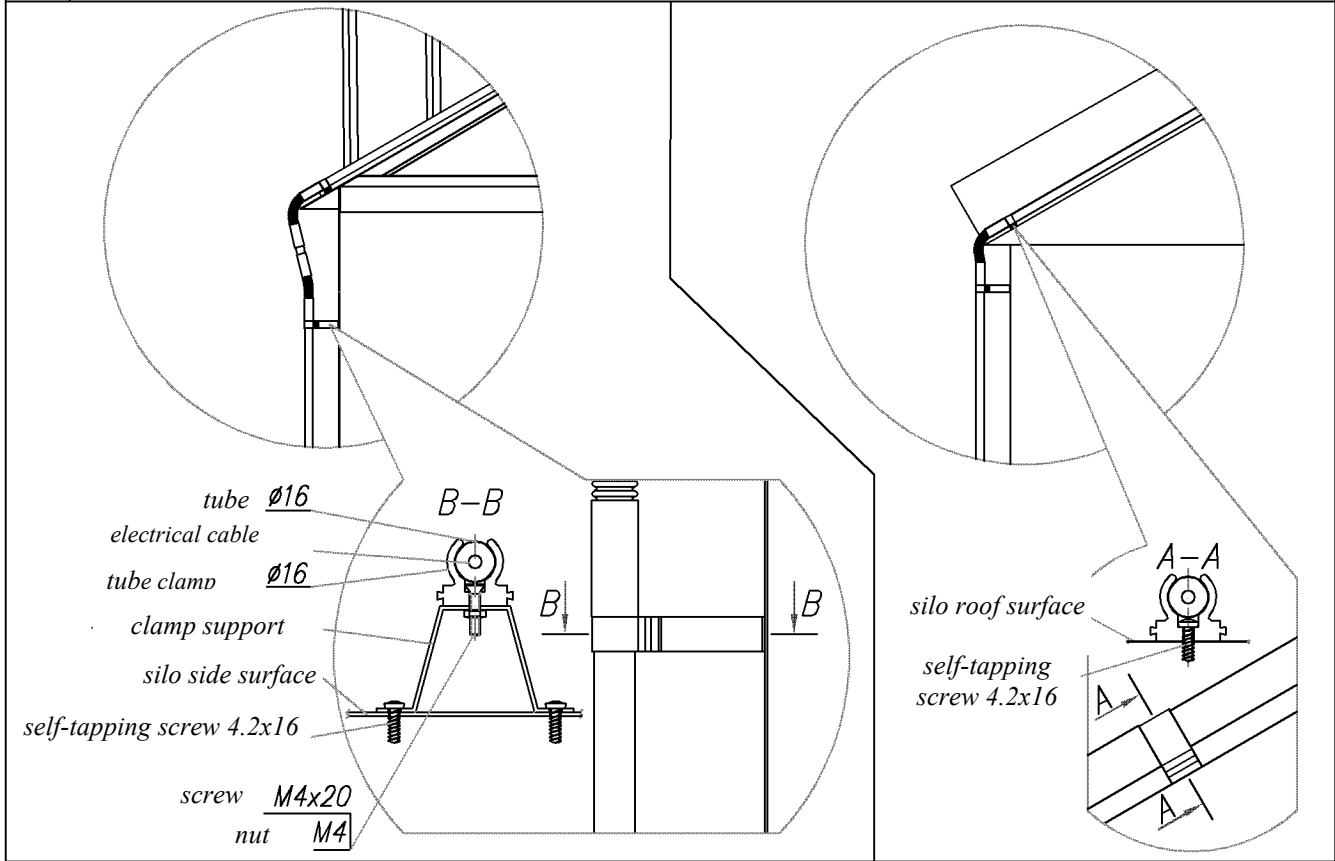
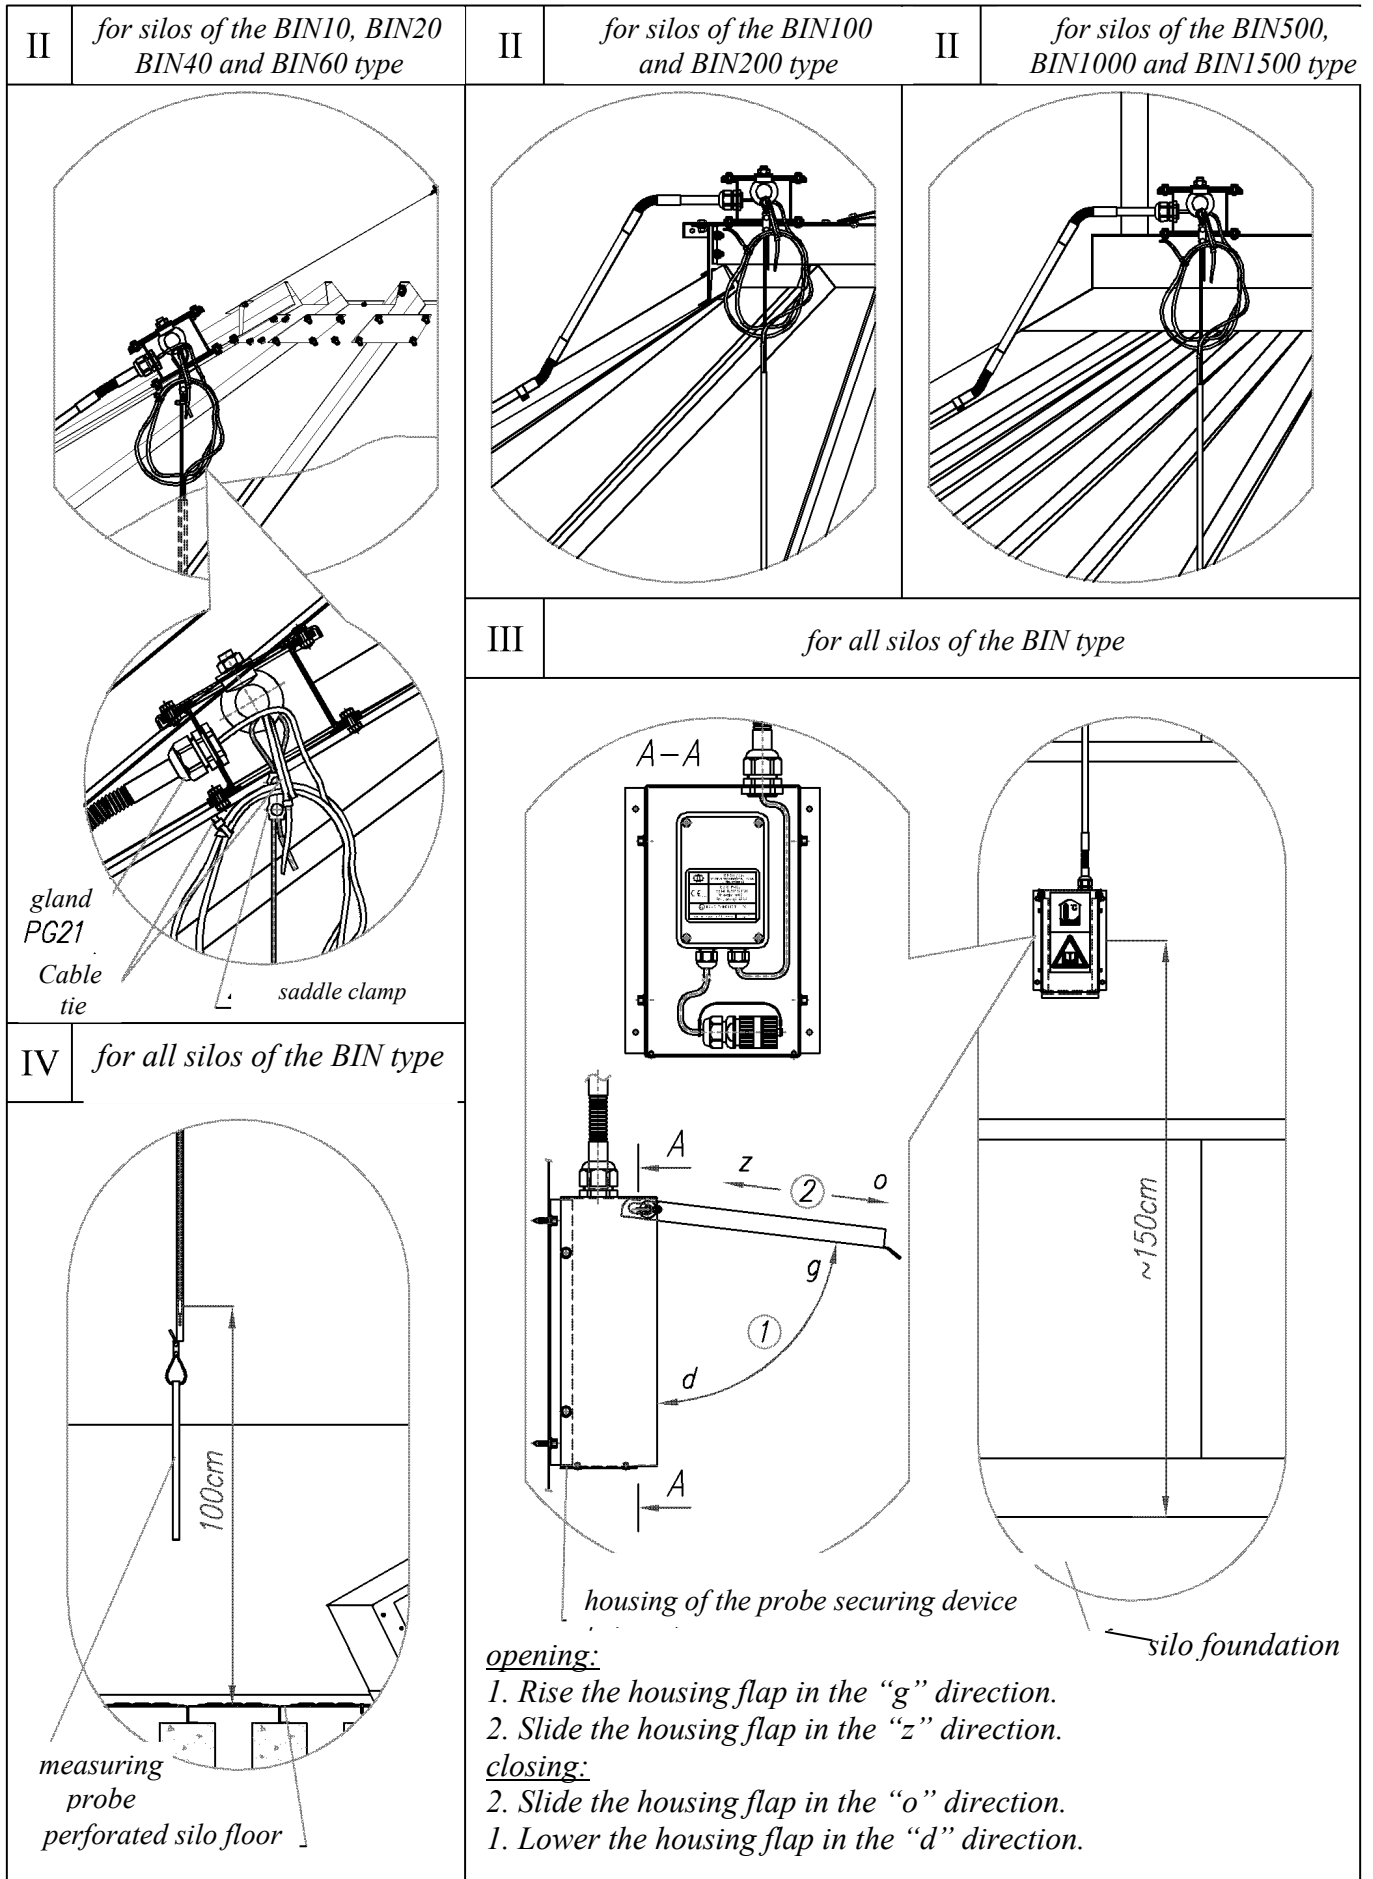
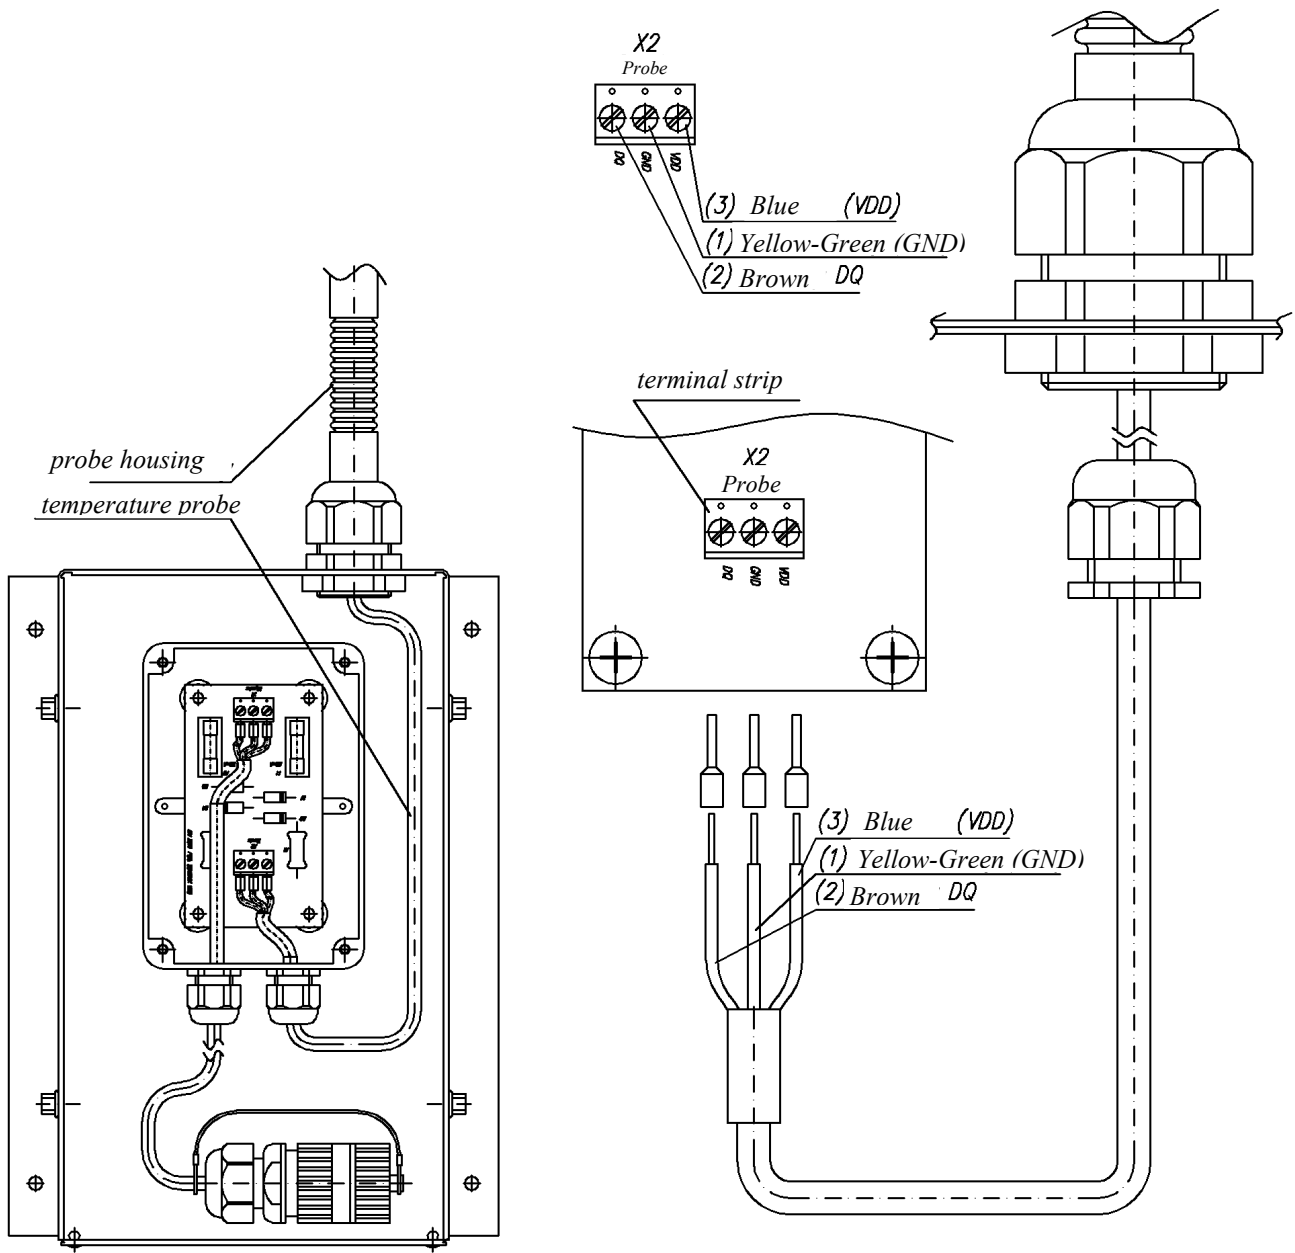

Figure 2 Installation of the thermometer STW-100 (part 1).
Figure 3 Installation of the thermometer STW-100 (part 2).
Figure 4 Installation of the thermometer STW-100 (part 3).
The measuring probe for thermometer STW-100 should be installed in the silo. The remaining installation with the device should be placed outside the silo, near the entry ladder (about 30 cm from the ladder) – Figure 2, Figure 3, Figure 4.
9. Connect the probe electric cable to the securing device (Figure 4)
1. Open the flap of the probe securing device housing (Figure 3),
2. Unscrew the protective cap from the connecting plug (Figure 4),
7. Close the flap of the probe securing device housing (Figure 3).